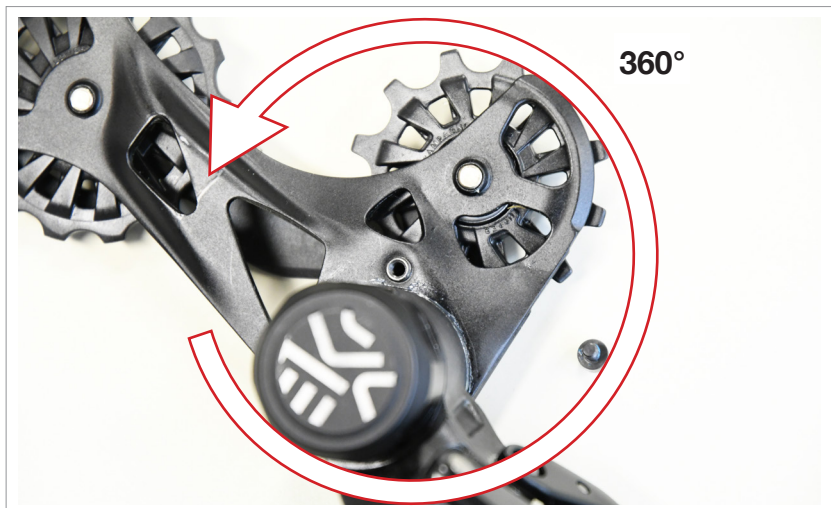

Fig.12
10) Load the spring by turning the jockey cage ONE (360°) complete turn counterclockwise (Fig. 12).